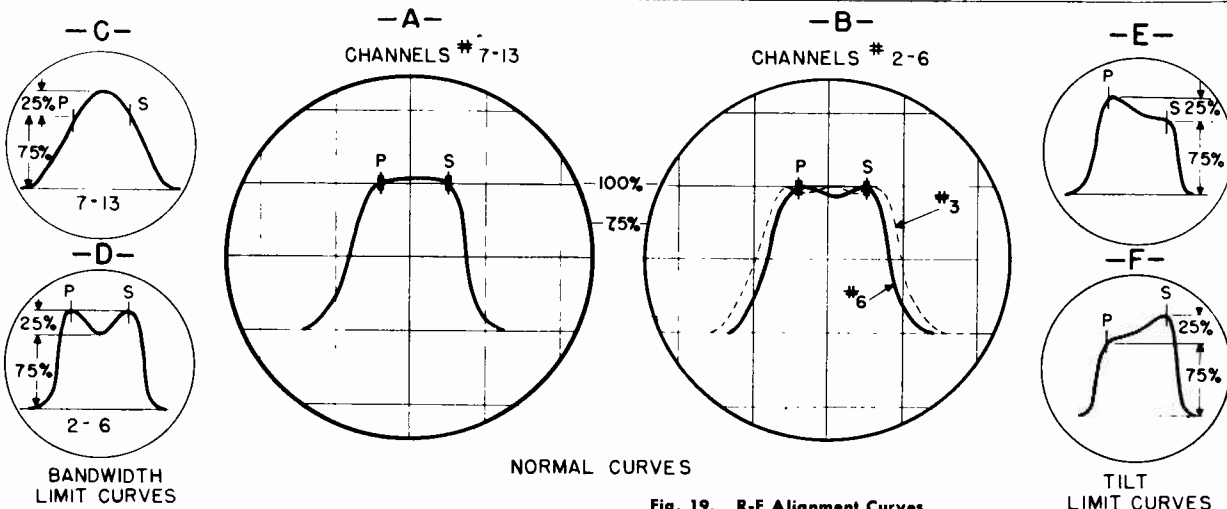

Fig. 19. R-F Alignment Curves
3. The inductance of the coils are adjusted by brass screws with the exception of L111, L118 and L126 which are adjusted for proper tracking by inserting a knife blade between the windings. Adjust C104, C105, C106 and C108 for maximum gain and proper bandwidth of 4.5 mc across the top of curve on Channel No. 13, Fig. 19-A. Coil L122, may be dressed to aid in the tracking of the high channels. C105 controls the bandwidth and C104, C106 and C108 bring the circuits into resonance.
4. With the channel switch on No. 6, tune L112, L114, L119 and L127 for maximum gain, optimum curve flatness and 4.5 mc bandwidth (Figure 19-B).
6. With the channel switch on No. 3, adjust coils L109, L116 and L124 for maximum gain and optimum curve flatness. (Figure 19-B.)
curve. If two minimum values occur the curve will look like Figure 19-C. When the sound carrier is 25% down the curve we obtain curve of Figure 19-E; when the picture carrier is 25% down we obtain curve of Figure 19-F. For the low channels we may obtain a limit curve like Figure 19-D.